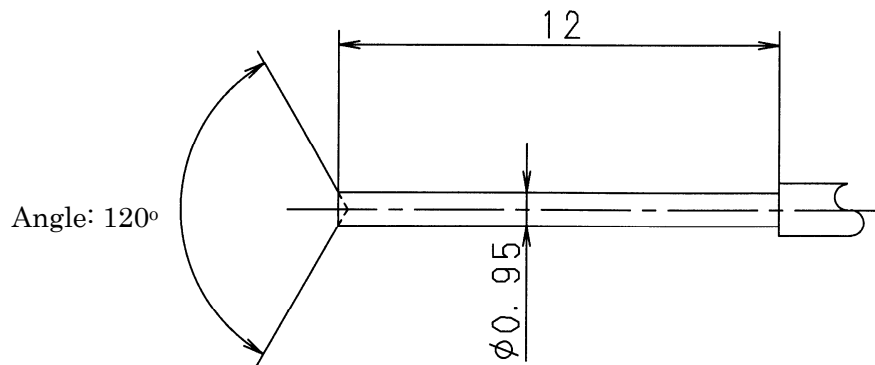

Figure 1. Tester probe for 025-M
- See figure 1 for the dimensions of the probe.